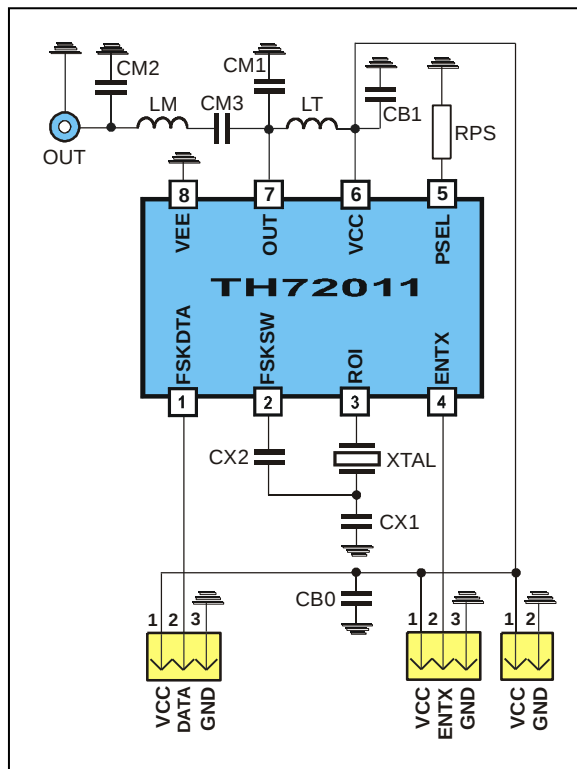

Fig. 18: Test circuit for FSK with 50 Ω matching network
typical values at $T_A = 23\text{ }^{\circ}\text{C}$ and $V_{CC} = 3\text{ V}$; test circuit shown in Fig. 18, $f_c = 433.92\text{ MHz}$
- Data according to test circuit in Fig. 18
6.1. Test circuit component list to Fig. 18